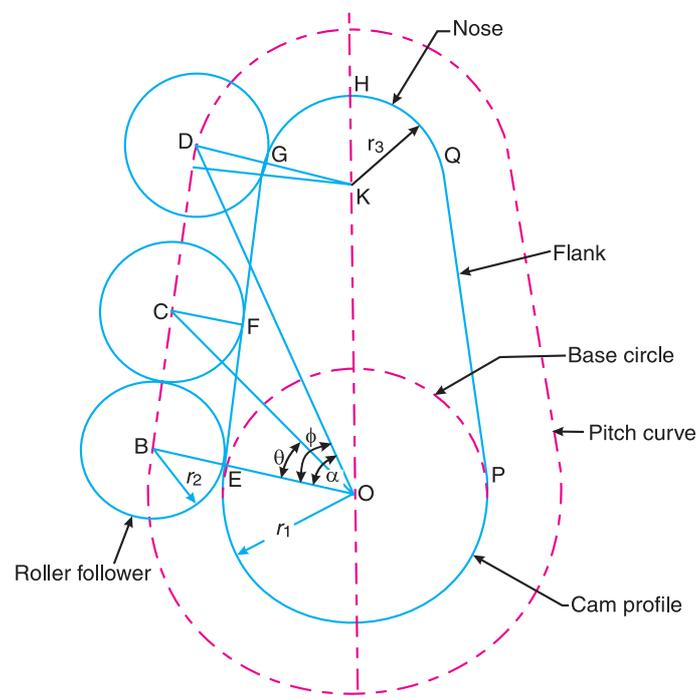

Fig. 20.40. Tangent cam with reciprocating roller follower having contact with straight flanks.
When the flanks of the cam are straight and tangential to the base circle and nose circle, then the cam is known as a **tangent cam**, as shown in Fig. 20.40. These cams are usually symmetrical about the centre line of the cam shaft. Such type of cams are used for operating the inlet and exhaust valves of internal combustion engines. We shall now derive the expressions for displacement, velocity and acceleration of the follower for the following two cases :
1. **When the roller has contact with straight flanks.** A roller having contact with straight flanks is shown in Fig. 20.40. The point O is the centre of cam shaft and the point K is the centre of nose. EG and PQ are straight flanks of the cam. When the roller is in lowest position, (*i.e.* when the roller has contact with the straight flank at E), the centre of roller lies at B on the pitch curve. Let the cam has turned through an angle* θ (less than ϕ) for the roller to have contact at any point (say F) between the straight flanks EG . The centre of roller at this stage lies at C . Therefore displacement (or lift or stroke) of the roller from its lowest position is given by